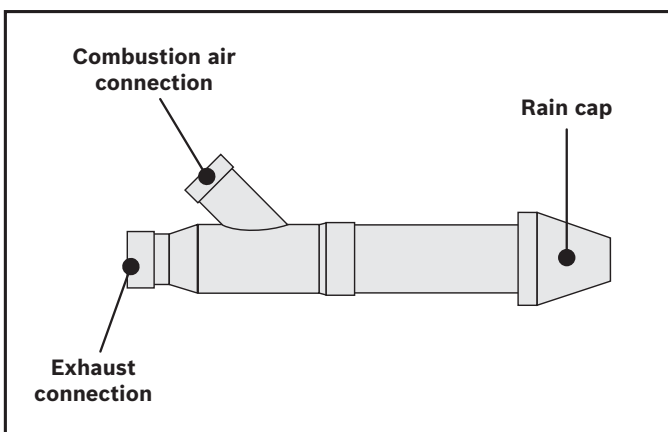

Fig. 8 Concentric vent kit connections
6. With rain cap (Fig. 8) removed, slide assembly through the roof or wall penetration. (Install flashing if needed or required by code)
9. Connect combustion air piping to the combustion air connection on the kit. Connect exhaust vent piping to the exhaust connection on the kit (Fig. 8).